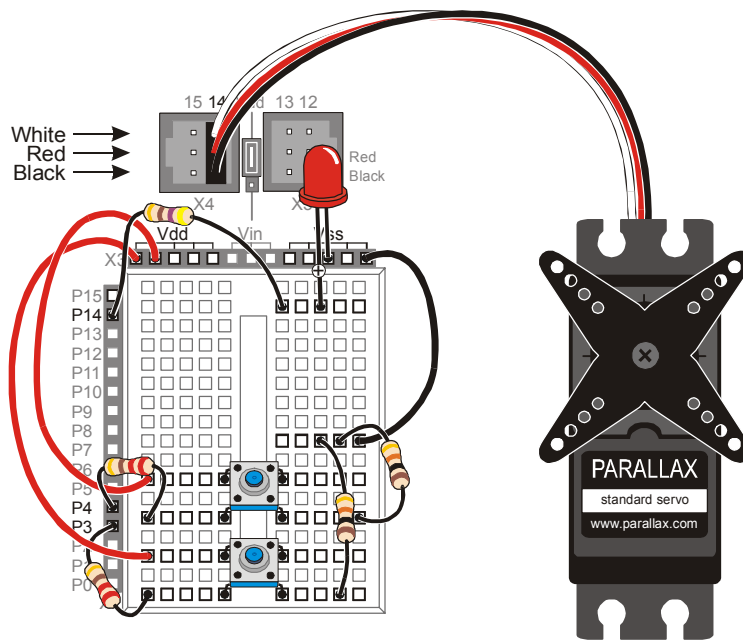

Figure 4-21
- Figure 4-21 if you are using the Board of Education Rev C